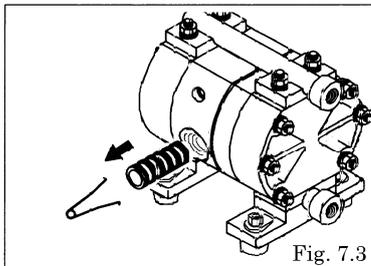

Fig. 7.3
- Remove the sleeve using the sleeve remover (special tool: Part number 713148). [Fig.7.3]